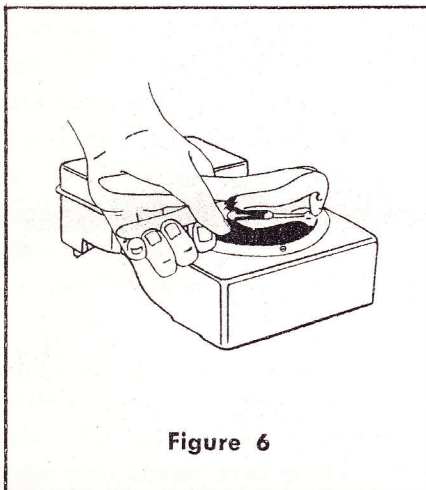

Figure 6
4. After the holes are marked, remove the blower housing and drill or punch four 7/32" holes at the locations of the marks (Fig. 6).